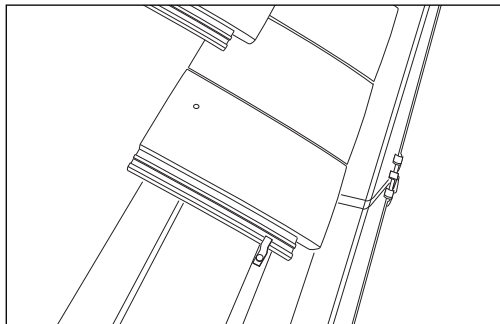

Fig 25 - Clipping eaves course
- 2 Purpose made eaves clips are nailed to fascia board and located over side lock of the eaves course tile. (Fig.25)